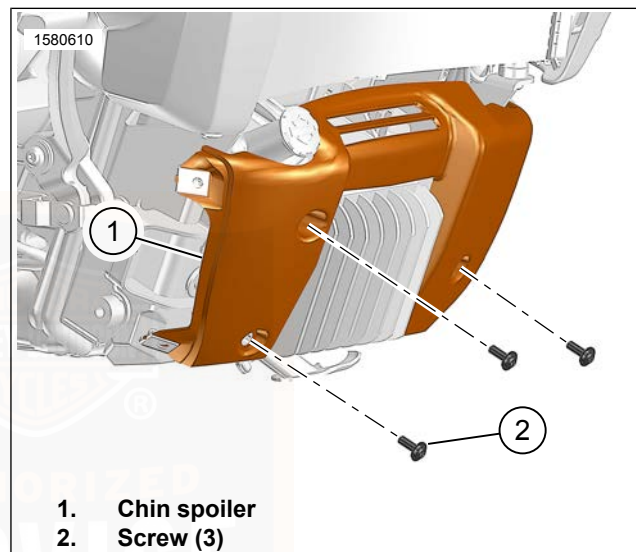

Figure 89. Chin Spoiler
3. See Figure 89. Remove screws (2).
4. Remove chin spoiler (1).
1. See Figure 89. Install chin spoiler (1).
2. Install screws (2). Tighten.